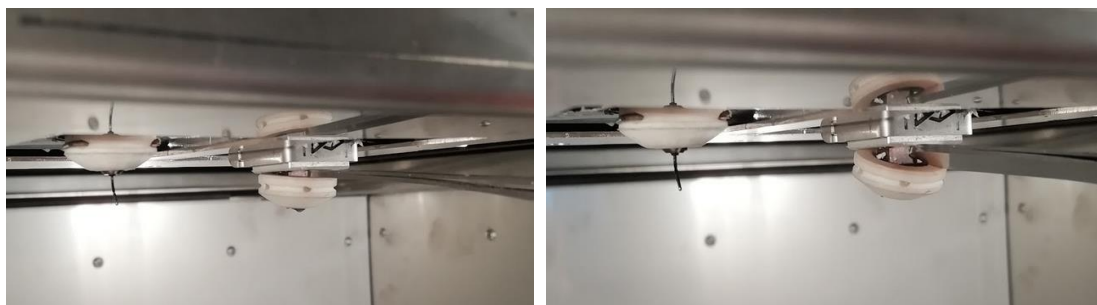

Fig. 90 Removing the cover
11. Remove the cover from the hotend tip by prising it with a flat tool such as a tweezers tip (Fig. 90).